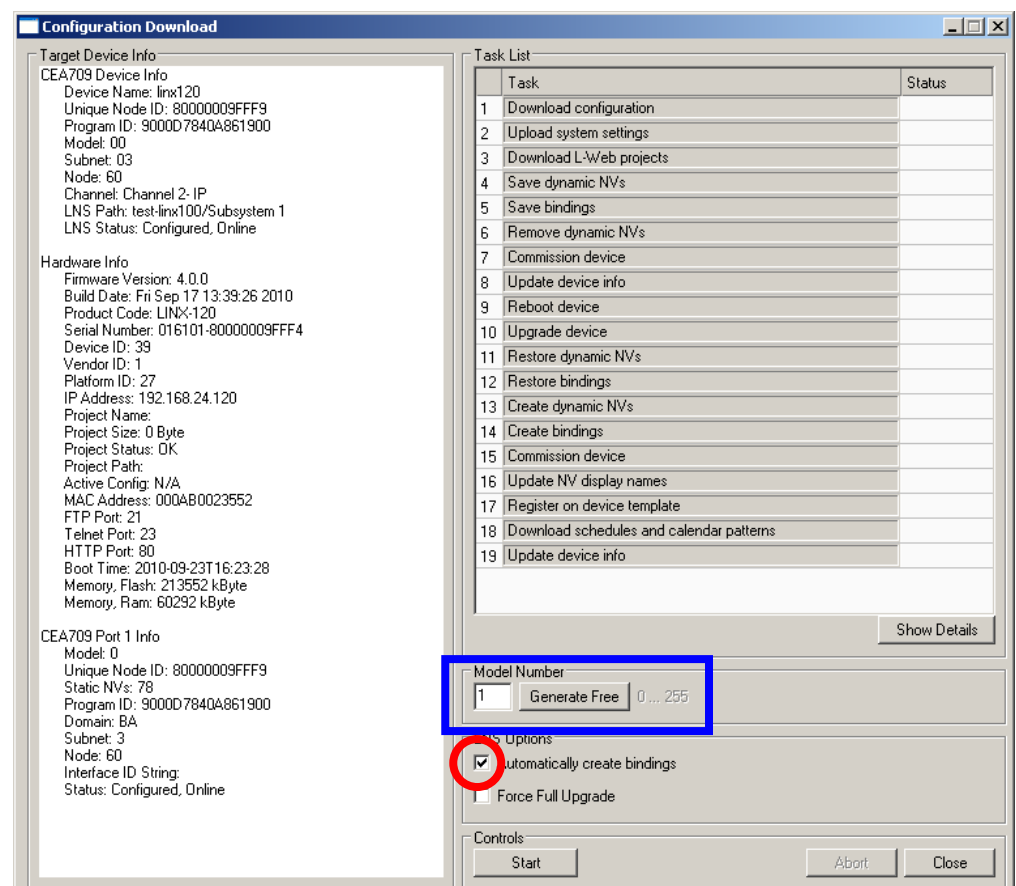

Figure 96: Configuration Download Dialog via LNS.
2. If no bindings shall be generated, deselect the **Automatically create bindings** checkbox indicated by the red circle in Figure 96.